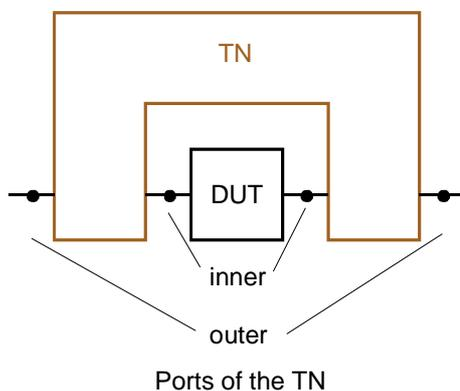

Fig. 1: Inner and outer ports of a transformation network
A frequently occurring category of measuring tasks in network analysis comprises the so-called embedding and de-embedding problems. A device under test (DUT) is embedded if its ports are all connected to a transformation network (TN) so that only the ports of the transformation network are accessible from outside. This transformation network may be e.g. a matching circuit, a test fixture or a case. In general, it features twice as many ports as the DUT. The ports of the transformation network which are connected to the device under test are referred to as "inner" ports, those accessible from outside as "outer" ports. Fig. 1 shows an example of a two-port embedded in a transformation network with four ports.